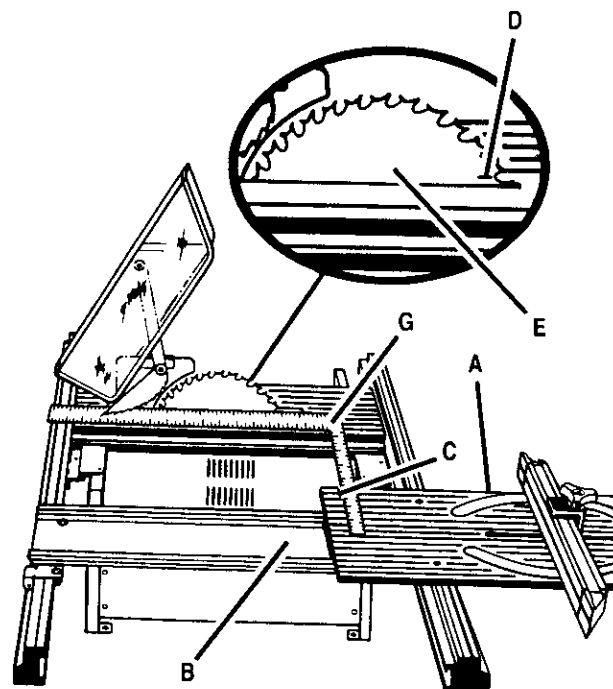

Figure 54
- Slide miter table (A) to the front of miter base (B) as far as it will go. Place a reference mark (C) near the end of the miter table as shown in figure 54.